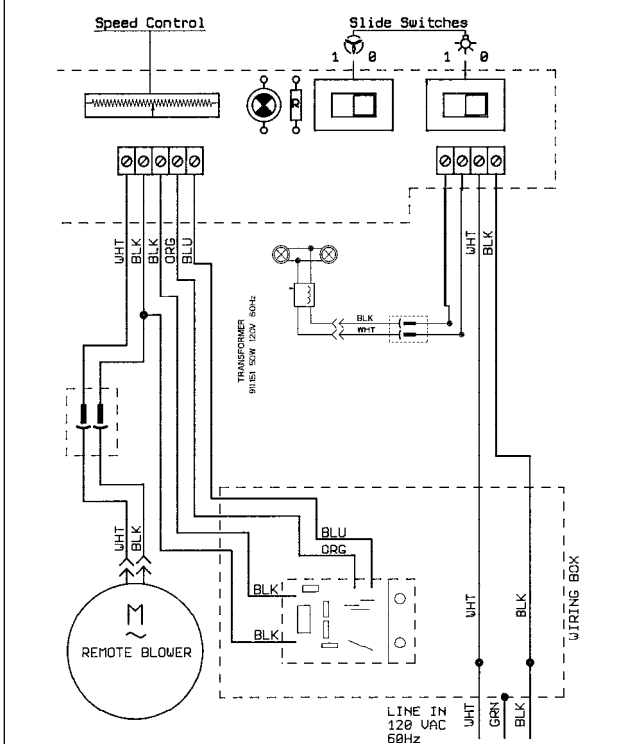

**FIGURE 13**
11. Turn the power supply on. Turn on blower and lights. The rangehood controls are located in a gray panel on the canopy's underside. To open the panel, press up on the front edge and release as indicated in **FIGURE 13**. If the rangehood does not operate, check that the circuit breaker is not tripped or the house fuse blown. If the unit still does not operate, disconnect the power supply and check that the wiring connections have been made properly.